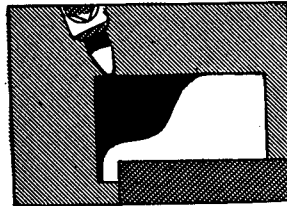

FIG. 497
2. Move the work over and the tool down until the top of the tool touches the work (Fig. 497).